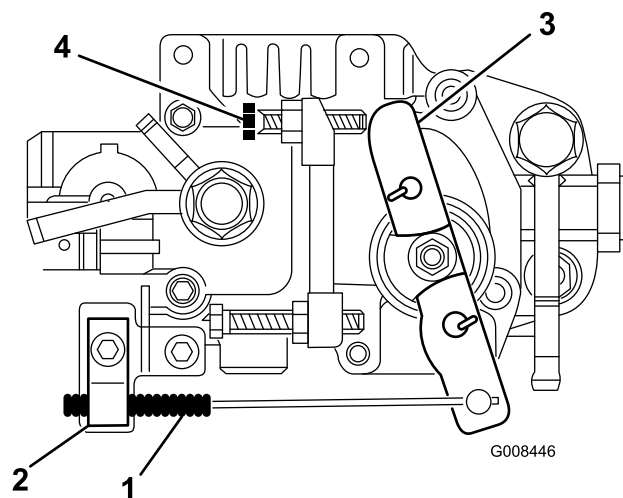

Figure 45
2. Loosen the cable clamp screw securing the cable to the engine (Figure 45).
3. Move the cable until the speed control lever contacts the idle speed screw (Figure 45).
2. Loosen the locknut on the idle speed screw (Figure 45).